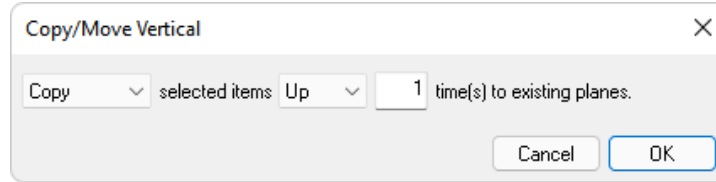

FIGURE 10-35
- Click on the drop-down box labeled *To* and select **Up**. This will change the Copy/Move Vertical window to be as shown in **FIGURE 10-35**.